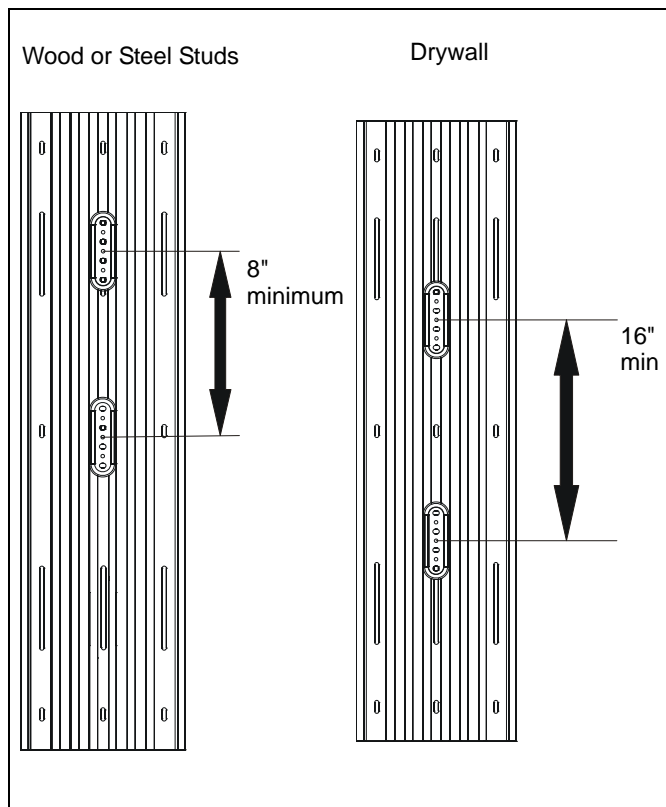

Figure 22
WARNING: For vertical mounting on wood or steel studs, a minimum distance of 8" must exist between mounted devices. For vertical mounting on drywall, a minimum distance of 16" must exist between mounted devices. (See Figure 22)
1. Tuck cable inside cable management flap. (See Figure 22)
3. Pull cable through cable management flap until cable outlet plug extends outside the wall track accessory. (See Figure 22)
4. Reinstall side cover making sure the cable runs through the cable hole. (See Figure 22)